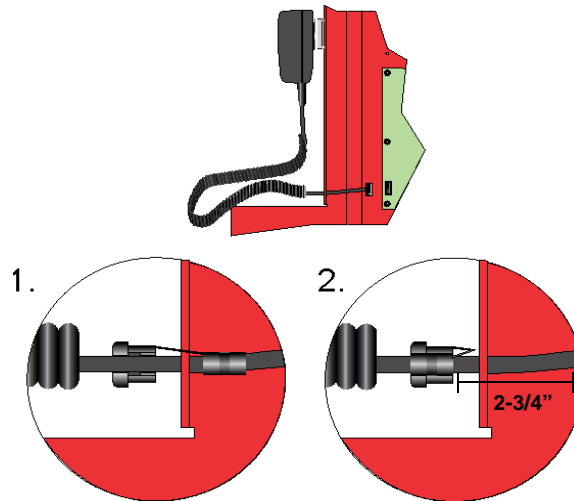

Figure 1.7 Installing Strain Relief Clip
3. Attach strain relief clip to microphone cord. The strain relief clip should have about 2¾" of microphone cord through it. See Figure 1.7.